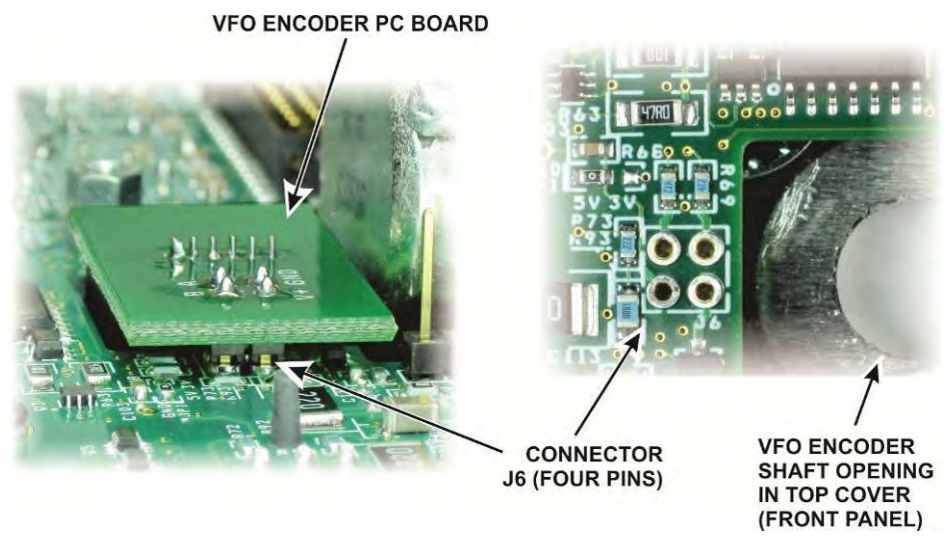

Figure 16. Installing the VFO Encoder.
□ Carefully position the encoder with its shaft through the opening in the front panel while mating the four pins with J6 (see Figure 16).